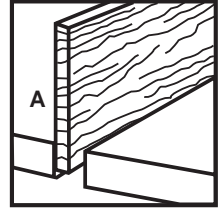

Figure 12
2. Clamp board A to a workbench or clamping table. See Figure 12.